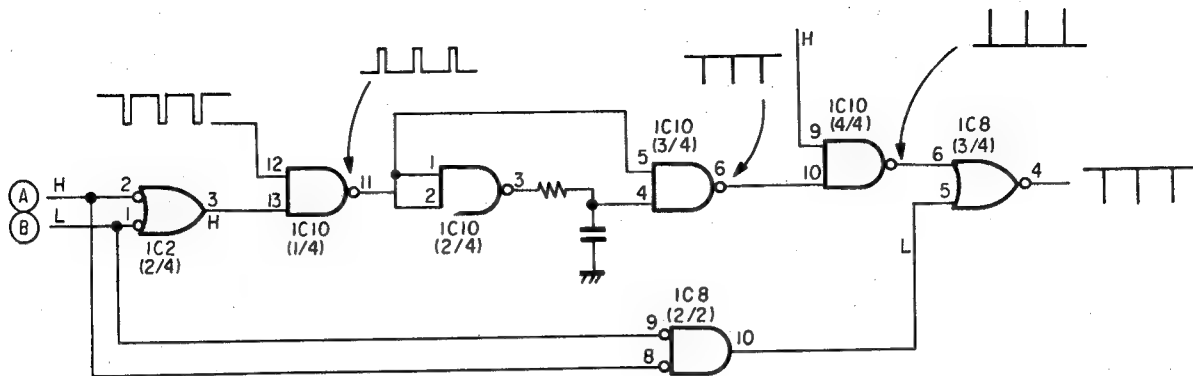

Fig. 47.
During crosshatch pattern operation, a low-level signal is input to ④ (see Fig. 47.) according to data written into the IC23 memory. The level at pin ⑩ of IC8 becomes high, and the output level low. This process is carried out at 128-line intervals.